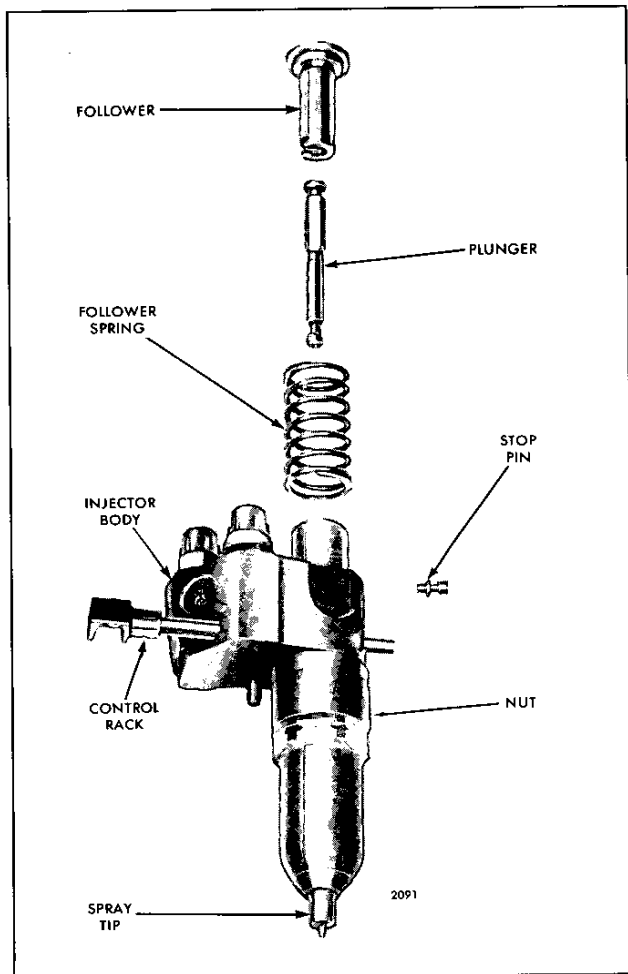

Fig. 33 - Injector Plunger, Follower and Relative Location of Parts
25. Refer to (Fig. 33) and slide the head of the plunger into the follower.